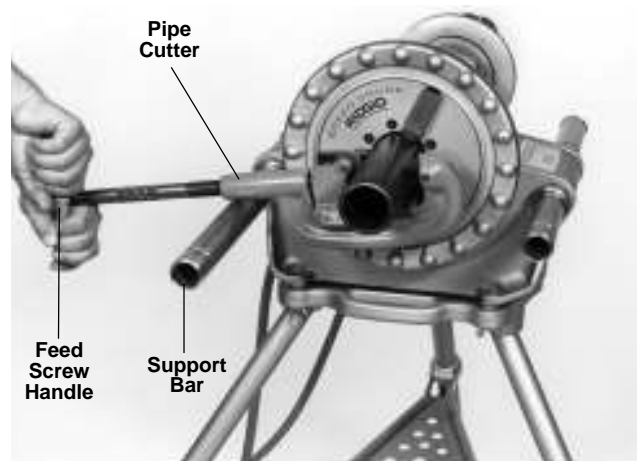

Figure 5 – Cutting Pipe with Hand Cutter
2. Align the cutter wheels with the mark on the pipe and rest the pipe cutter's body on the left support bar (Figure 5). Hand-tighten the pipe cutter to the workpiece using the feedscrew handle while keeping the cutter wheels aligned with the mark.
5. Grasp the pipe cutter's feedscrew handle with both hands (Figure 5) and depress and hold down the foot switch with the left foot.